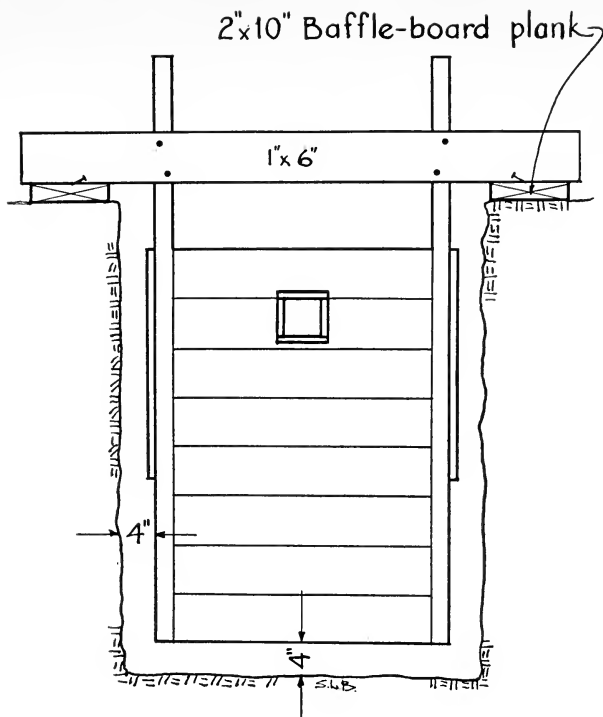

Fig. 12—End view of the completed form suspended in the hole.
See figure 12.
1. The 1×6 -inch hanging boards shown in figure 12.